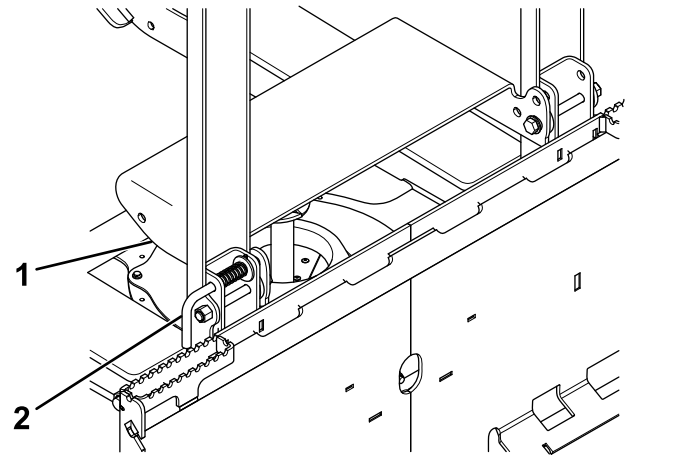

Figure 14
2. On the spreader frame, pull back the spring-pin handle and raise the cube stop (Figure 14).